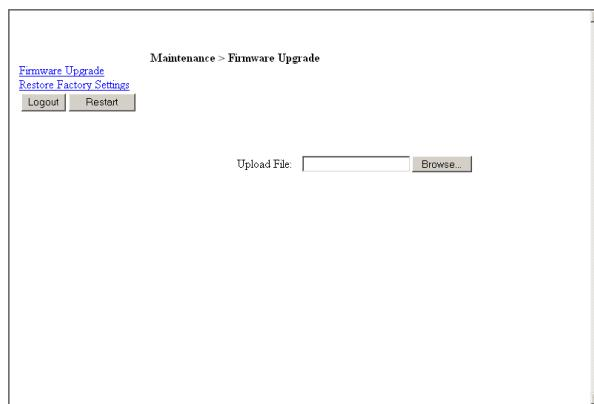

Figure 69 – Safe Mode Menu
1. In the Safe Mode menu (see Figure 69), click **Restore Factory Settings**.
1. In the Safe Mode menu (see Figure 69), click **Firmware Upgrade**.